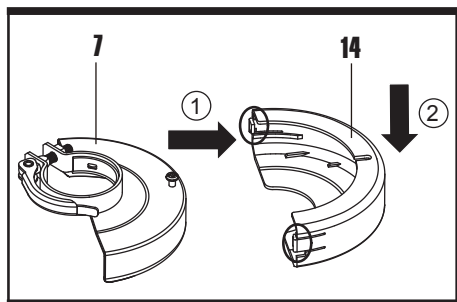

Fig.E1
- 14. Outer guard (See Fig. E1)